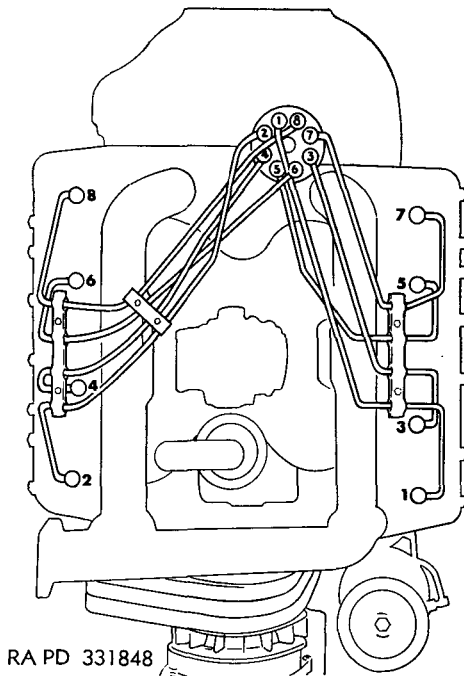

Figure 62. Engine cylinder numbering.
b. **INSTALLATION OF COMPLETE IGNITION HARNESS.** Connect each of the spark plug conduits, in turn, to the distributor cap, working from the wire markers and following the order indicated (fig. 62).
c. INSTALLATION. Place new gasket on spark plug and insert plug in engine. Tighten plug to a torque tightness of 7–10 foot-pounds torque. Refer to paragraph 100*d* for spark plug specifications. Check the condition of the insulator at end of each spark plug conduit. Insulator must not be cracked and spring terminal at end of insulator must not be damaged or missing. Connect the correct conduit to each spark plug (fig. 62) and tighten fingertight, plus one-half turn. Do not force these connections.